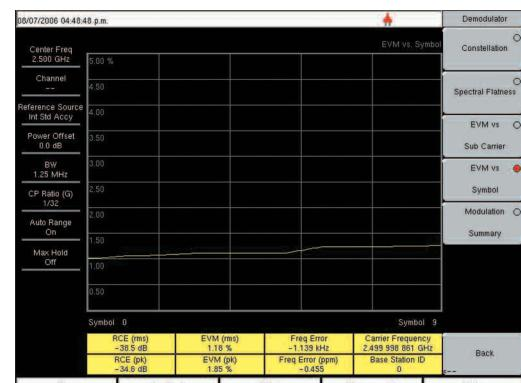

Figure 11. EVM versus Symbol view.
3. Press the EVM versus Symbol soft key to activate the measurement. The red dot on the soft key indicates it is selected (Figure 11).